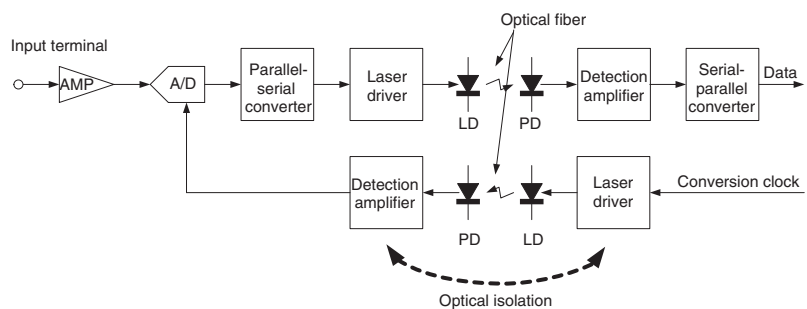

Figure 3 Principle of High Voltage Isolation
To realize this high-speed sample rate and high-voltage isolation, we have developed an isolation method to optically convert data digitalized in the module and send the data to the main unit through optical fiber. Figure 3 shows the principles of this method. Input signals are normalized at the amplifier and digitalized at the A/D converter in the module. The digitalized data is converted to serial data, then converted to the optical signal by a semiconductor laser diode (LD), and sent to the main unit through optical fiber. In the main unit, a photodiode (PD) is used to convert the optical signal to electrical signal, which is converted to parallel data. The clock signals are sent from the main unit to the input module in the same way. Data